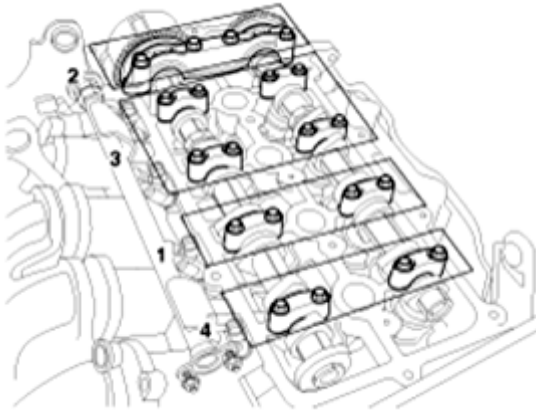

Fig. 13: Identifying Installation Sequence Of Camshaft Bearing Caps
19. Install the camshaft bearing caps in the order shown in **Fig. 13**.